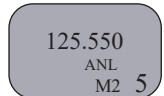

Figure 7
- Display indicates that the ANL function is enabled by displaying "ANL" icon in the lower part of the LCD. **(See Figure 7)**